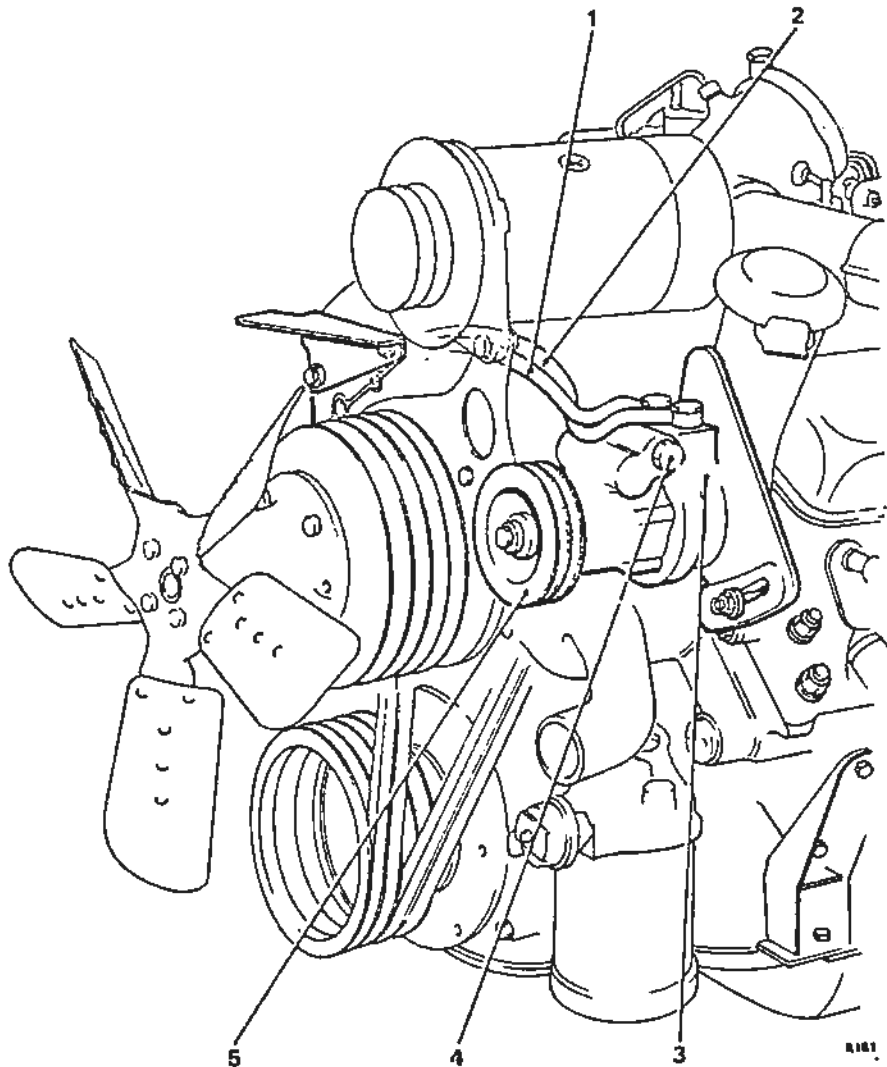
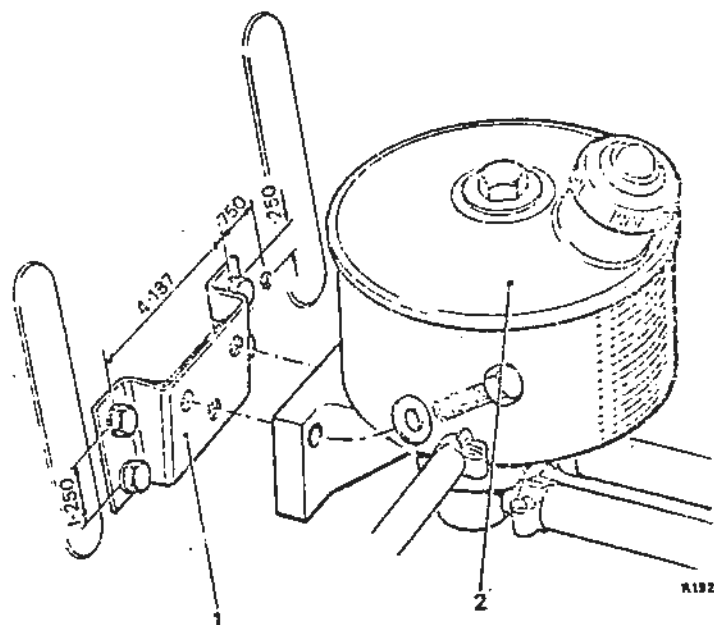

Figure 2. Pump in position
Figure 3. Fitting reservoir mounting bracket RH 8920 to bulkhead.
1. Using Figure 3 as a guide drill four holes into the bulkhead, insert an anchor nut (SPC 1697) into each hole, fit the reservoir bracket (RH 8920) and secure with the four setscrews (UA 103/Z) and washers (UA 1251/Z).
1. Using Figure 2 and Figure 3 as a guide, connect a hose, cut from RH 8912, between the pump and reservoir (pump return line).
2. The steering box to reservoir return pipe should be disconnected, the steering box end banjo bolt retained, the hose discarded and a new hose, cut from PH 8912, fitted as Figure 2. The banjo bolt, with new seals, should be fitted with the new banjo (UE 30018) to the steering box.